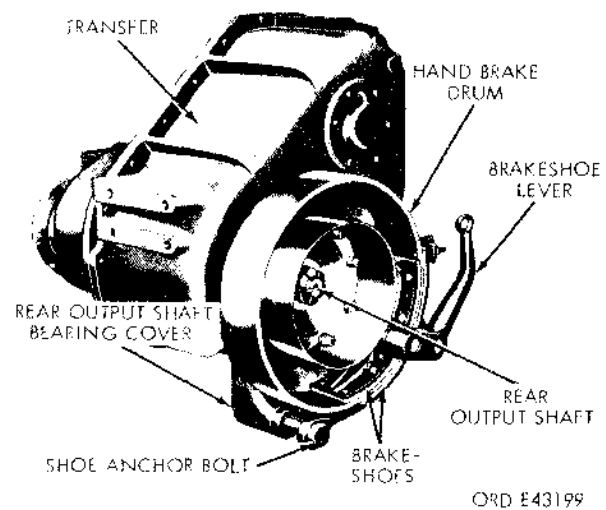

Figure 2-176. Handbrake mounted to rear of transfer.
**b. Hand Brake.** Handbrake components include a brake drum (fig. 2-176) and a pair of brake shoes mounted at the rear of the transfer. In addition, a cable is connected to the handbrake lever in the cab. The drum is bolted to the transfer rear output shaft. The two brakeshoes are pinned together and then bolted to a bracket extending from the transfer rear output shaft bearing cover.